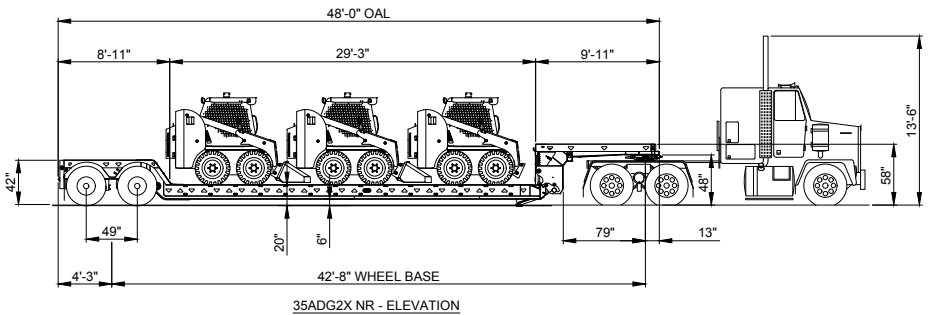

Figure 6
1. Trailers are designed for uniform load distribution as shown in figure 6. The load should be distributed equally between the front and the rear of the trailer.